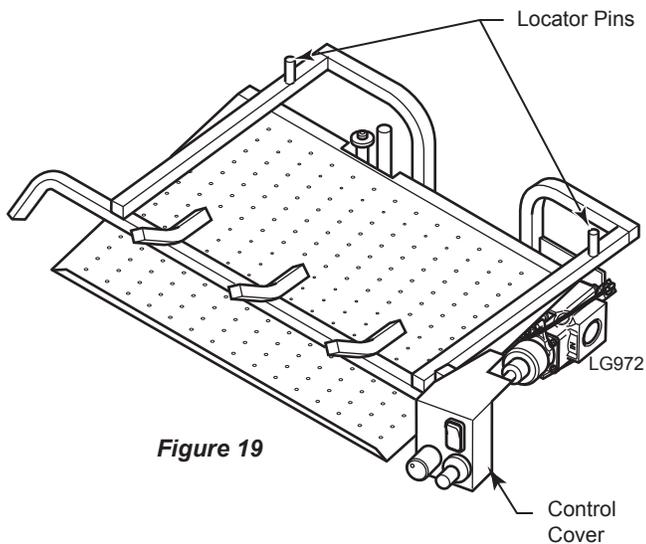

Figure 19
1. Align pins on bottom of rear log #1 with pins on grate bar and place on grate. *Figures 19 and 20*